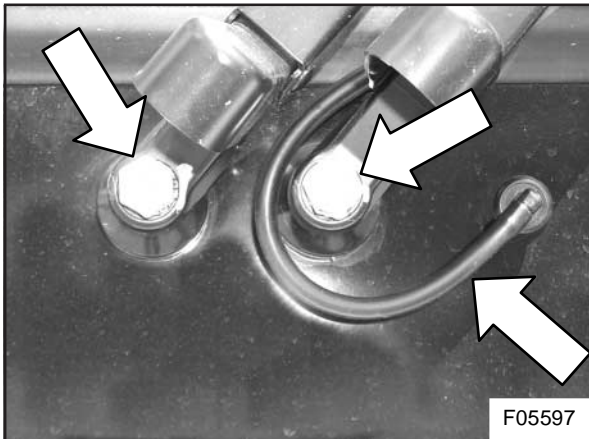

Figure 1: Wiper arm nuts and washer tube
- 1) Undo and remove the two nuts securing the main and idler windshield wiper arm (see Figure 1) on the right-hand side of the coach. Separate the washer tube from its fitting. Remove both wiper arms.